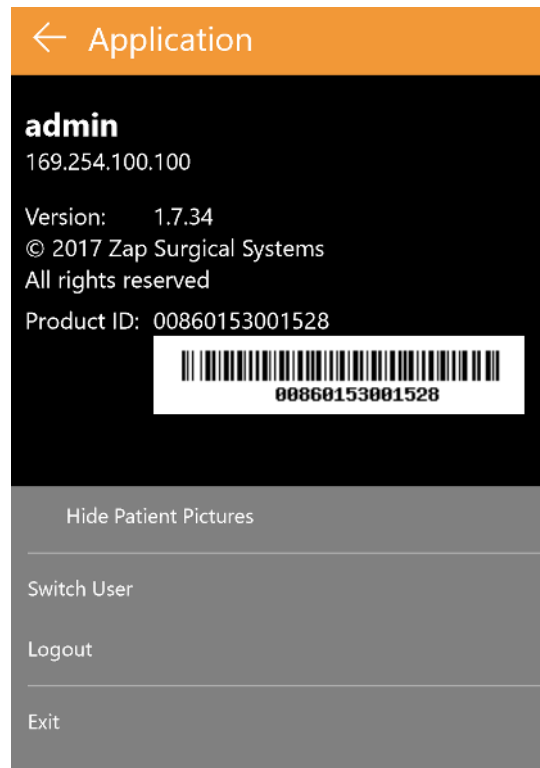

Figure 3.2.2. The Application Settings Dialog.
- **Application Settings:** The main use for this control is to exit the application, log out, or to switch users. See figure 3.2.2 for an example. It also has version and the database IP settings, which may be useful for DICOM administrators (see Chapter 12). Also in this menu is an option to hide/show patient pictures from the main patient page.